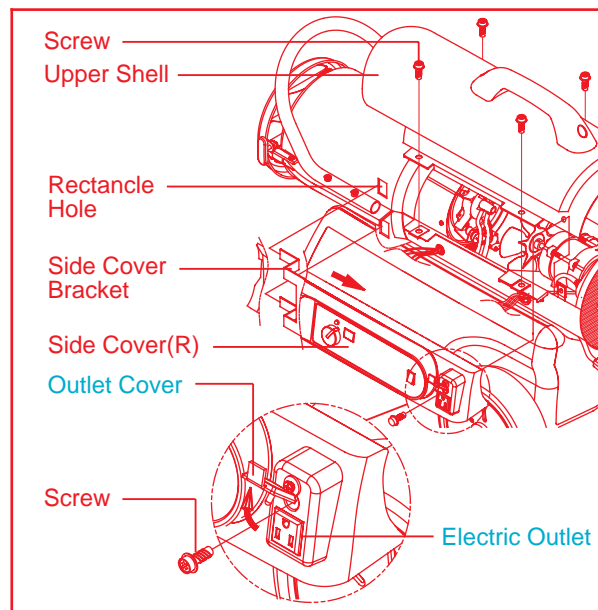

Figure 14. Upper Shell Removal.
- Uncover Outlet Cover and Remove Screw that secure Side Cover as shown in Figure 14.
- Side Cover(L) in opposite of Side Cover(R) Separates by same method.
- Remove 4 Screws along each side of heater using medium phillips screwdriver. These Screws attach Upper Rear and Lower shells together. (See Figure 14)
- Remove Upper Shell.(See Figure 14)